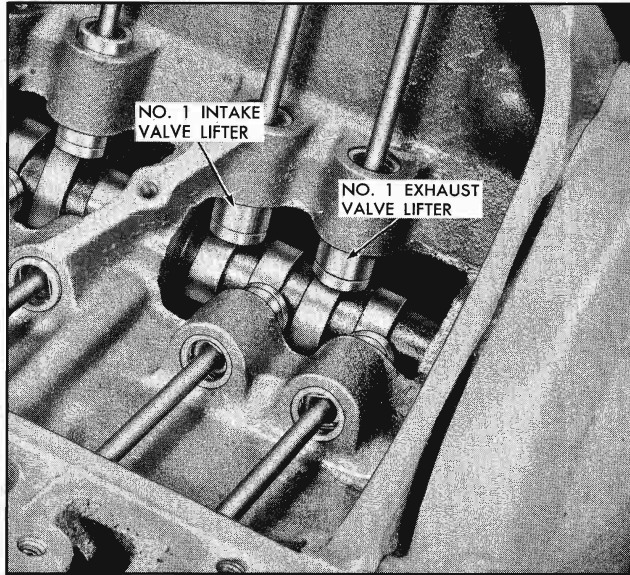
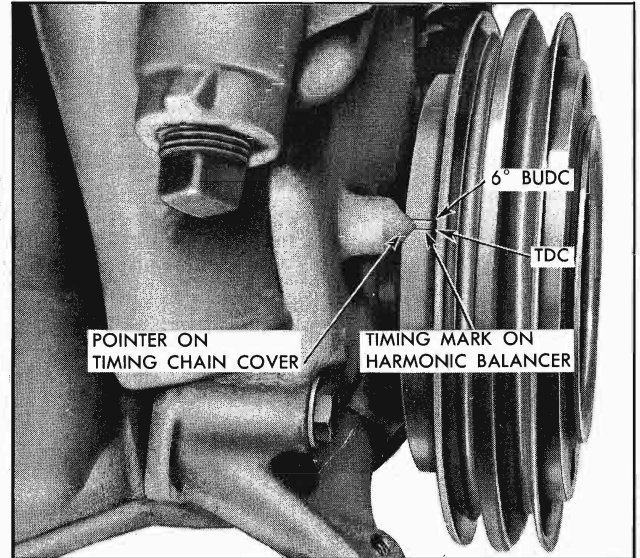

Fig. 6-86 Relationship of Lifters and Cams when Cylinder No. 1 is in Firing Position
Fig. 6-87 Timing Mark on Harmonic Balancer Aligned with Pointer on Timing Chain Cover
a. Turn crankshaft to firing position of number one cylinder so that number one exhaust and intake valve lifters are both on base circles of their cams (Fig. 6-86) and timing mark on harmonic balancer is indexed with pointer (Fig. 6-87).